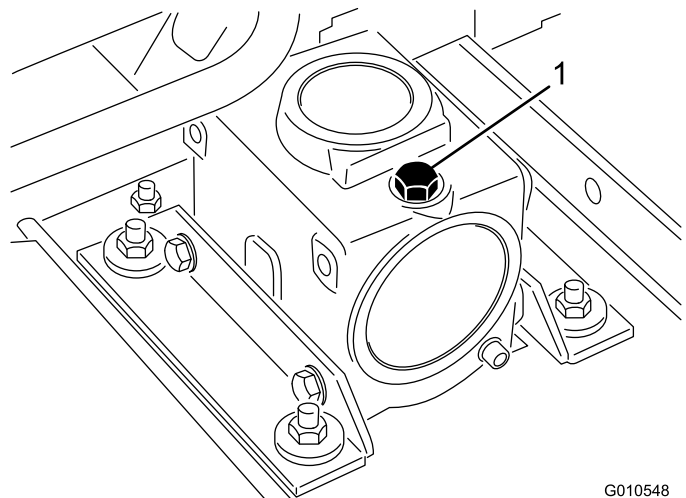

Figure 22
2. Position the machine and cutting unit on a level surface and lower the cutting unit. Remove the dipstick/fill plug from the top of the gear box (Figure 22) and make sure that the lubricant is between the marks on the dipstick. If the lubricant level is low, add SAE 80-90 wt. gear lube until the level is between the marks. The gear box capacity is 283 ml (12 ounces).